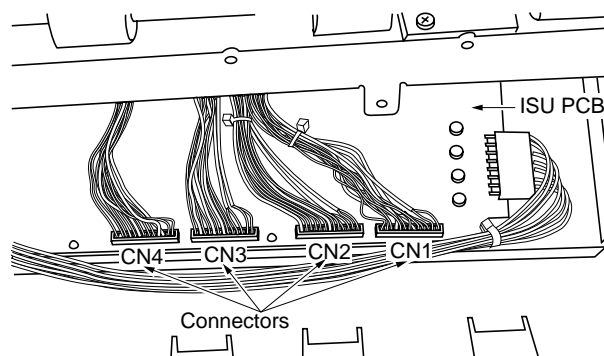

Figure 1-6-2
* Refit the four connectors of the contact image sensors to the ISU PCB so that numbers CN1 to CN4 indicated on the connectors match connector numbers CN1 to CN4 on the ISU PCB (see Figure 1-6-2).
(2) Attachment and removal of the LED printhead